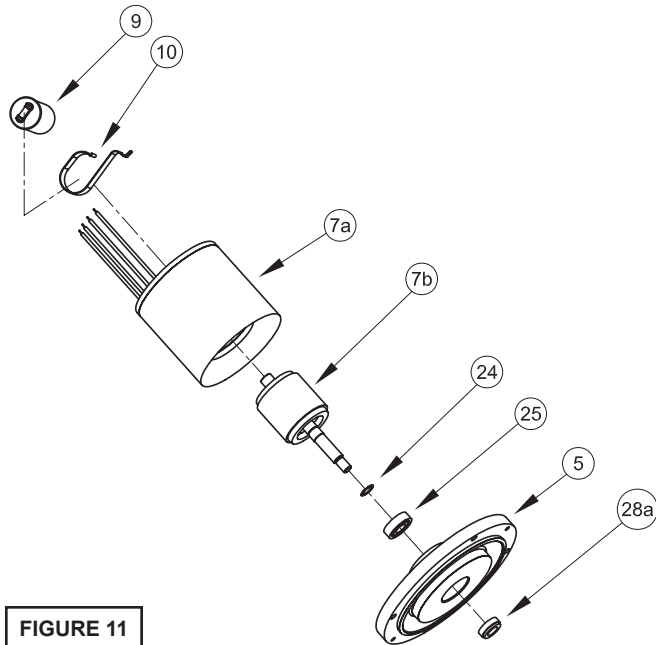

FIGURE 11
replacement is required, remove bearing (25) from motor shaft using a wheel puller or arbor press, see Figure 11.